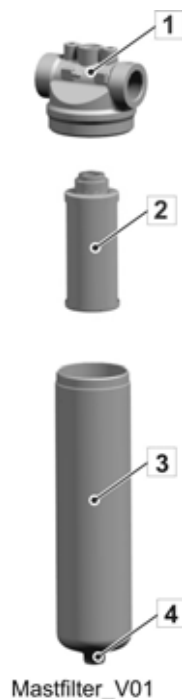

Abb. 300
The boom filter (**Abb. 300**) for the placing boom hydraulic system is a built-in tube filter located in the emergency operation switch cabinet, near the placing boom control block.
- Unscrew the filter bowl (3) (**Abb. 300**) at the bottom hexagon (4) using a ring spanner.
- Screw (pre-2011 models: "pull") the old filter insert (2) off of the filter head.